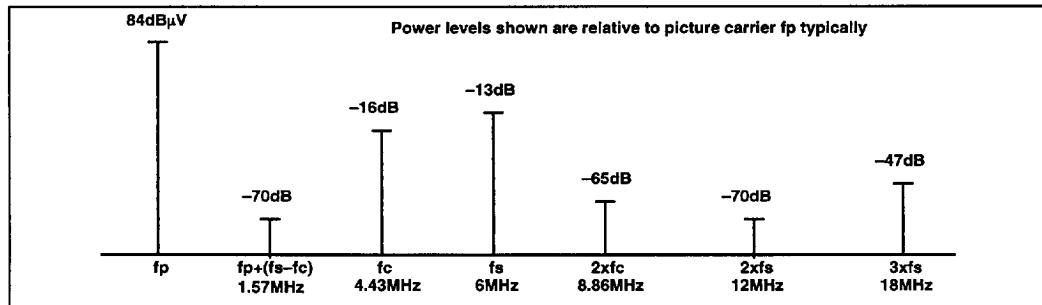
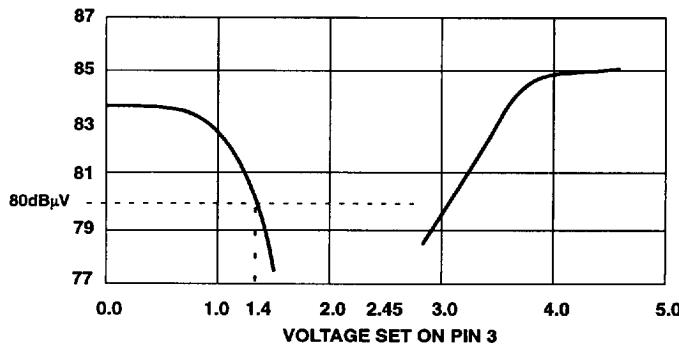

Fig. 3 Frequency spectrum above the Video picture carrier ( $Q_{\text{TANK}} = 9$ )
Fig. 4. Picture carrier, unmodulated RF output level
2. May be increased by use of external resistor, see Fig. 3
3. May be adjusted by use of external resistor dependent on video content, see Fig. 4
Pin 3 (MOD INDEX) is used to control both RF carrier amplitude and video polarity, see Fig. 3. Since the video input is internally AGC'd, varying the carrier amplitude will also adjust the video modulation index, see Fig. 4.
For example, for a negative modulation (PAL or NTSC) with an 80% modulation index, pin 3 should be set to 1.1Volts (see Fig. 4). This voltage corresponds to an unmodulated RF output level of 82dB $\mu$ V, see Fig. 3.
As already stated, great care must be taken with the mod index pin, pin 3. This should be decoupled with chip components as close to the pin as possible. Ideally the mod index should be defined with a DC voltage, thus requiring the use of two external resistors, see Figs 4 and 5. It is also possible to define mod index through the use of a single resistor connected to ground or  $V_{CC}$  depending on whether negative or positive modulation is required.